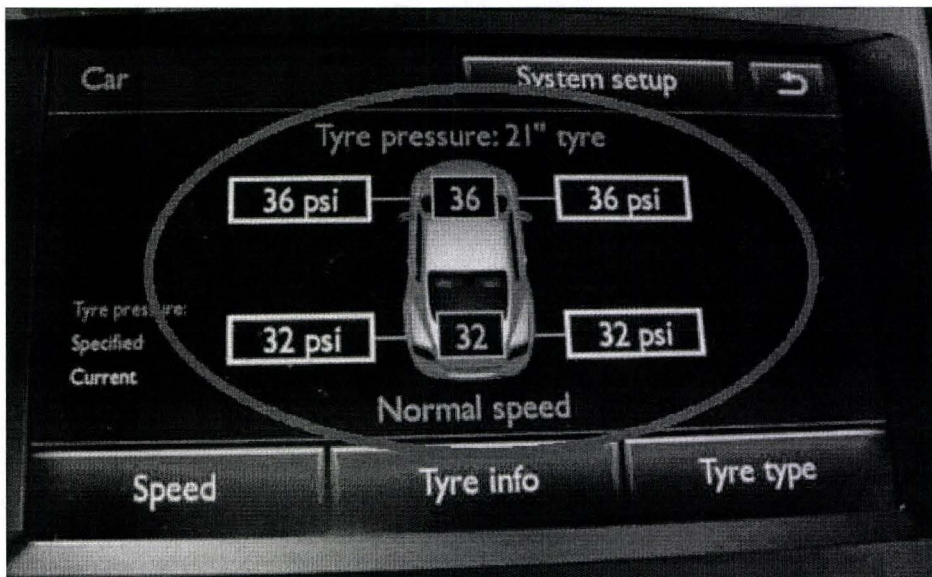

Figure 2
2. Using the Infotainment unit check and record all four tyre pressures, Figure 2 shows the Infotainment screen fitted in 12 Model year vehicles